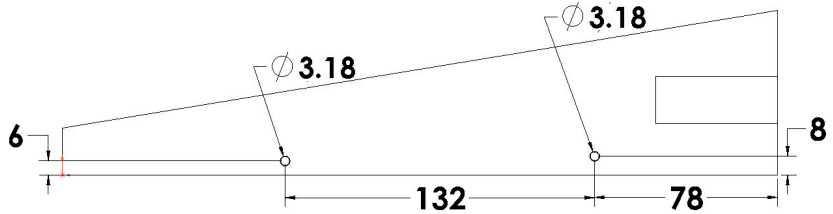

Fig. 14
Step 5. Click **Smart Dimension**  (S) on the Sketch toolbar.
Step 6. Add dimensions as shown in **Fig. 14**. To Smart dimension circle, click the circle then move the cursor out away from circle and click. Key-in **3.18** for diameter and press ENTER. To add other dimensions, click circle and edge of body, move cursor just off of body and click. Key in dimension and press ENTER. Arrange the dimensions as shown in **Fig. 14**.